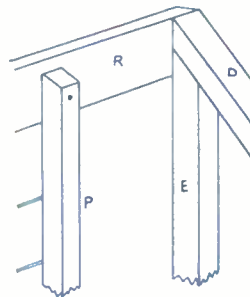

Fig. 9
A partition divides the middle of the building, separating the hut from the glass section, and it has a door in it leading from the hut to the greenhouse. This door is at the back of the hut, at the opposite end to the outside door. This avoids draughts entering the greenhouse. For the partition and door it is necessary to fix the post (P), see Fig. 9. (P) is of 2in. by 2in. section, and is nailed to the inside of the ridge (R). The bottom can be sunk into the ground, preferably into concrete.